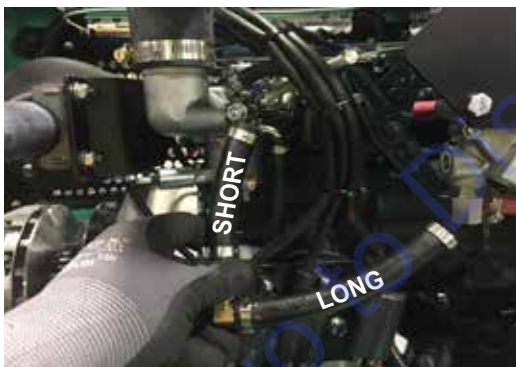

Figure 13. Connecting Hoses To Carburetor/Regulator
11. Attach stepless clamps (P/N 32834) to the free end of the short and long hoses (Figure 13).
12. Attach the free end of the **long** hose to the regulator port and attach the free end of the **short** hose to the carburetor intake port (Figure 13).